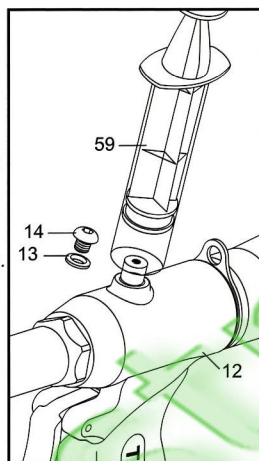

Fig. 6
- Reassemble the Lock Nut (9) and put back the Lock Washer (8), reassemble the Rear Jaw Case (7) adjacent to the Lock Washer (8), then put the Jaw Pusher Spring (6) into the Rear Jaw Case (7).
- Carefully put the Jaws (4) into the Front Jaw Case (3) and put the Jaw Pusher (5) to fit the Jaws (4) properly (Fig.6), then fasten these parts to the Rear Jaw Case (7) firmly by the Wrench 22 (57) and Wrench 27 (58). Make sure that the Lock Nut (9) is still not fastened firmly.
- Be sure to disconnect the tool from the compressed air supply system before unscrewing the Oil Screw Plug (14).
- Make sure to tighten the Oil Screw Plug (14) firmly after refilling oil.
1. Connect the tool to the compressed air supply system, depress the Trigger (30) twice to move the inner Oil Piston Assembly (15AY) and Air Piston Assembly (50AY).
3. Push the piston of the Hydraulic Oil Injector (59) forwards to the end, and then immerse the fitting of Hydraulic Oil Injector (59) in the new hydraulic oil and slowly pull the piston backwards to suck the new Hydraulic Oil around 25 ml into the Hydraulic Oil Injector (59). **Make sure that the Hydraulic Oil Injector (59) contains no air bubbles in the oil. (Fig.6)**
4. Carefully unscrew the Oil Screw Plug (14) and remove the Sealing Washer (13).
5. Gently rotate to screw the fitting of Hydraulic Oil Injector (59) into the oil refill hole of Oil Cylinder (12) firmly.
6. Depress the piston of Hydraulic Oil Injector (59) forwards to inject oil until the piston can not move further.
7. Gently unscrew to remove the fitting of Hydraulic Oil Injector (59) from the oil refill hole of Oil Cylinder (12). Wipe away the spill oil, if any.
8. Restore the Sealing Washer (13), and tighten the Oil Screw Plug (14) firmly.